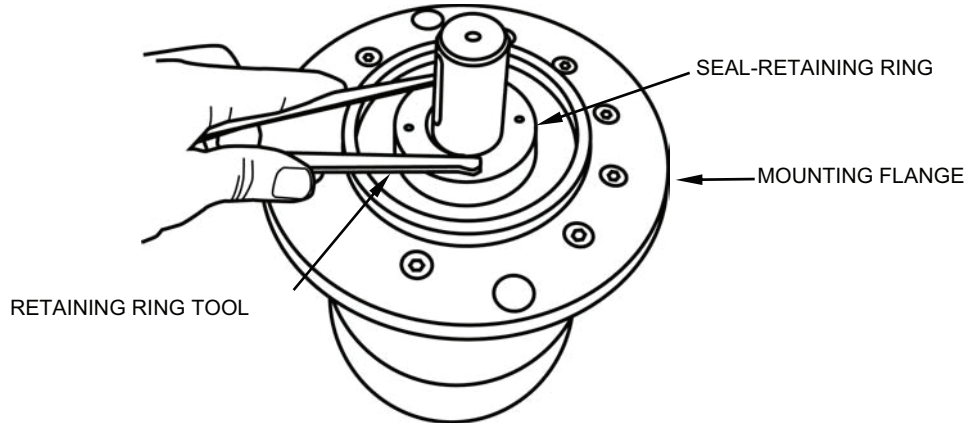

Figure 42. Installing Seal-Retaining Ring into Mounting Flange.
- ee. Using the retaining ring tool, tighten the seal-retaining ring (see Figure 42).